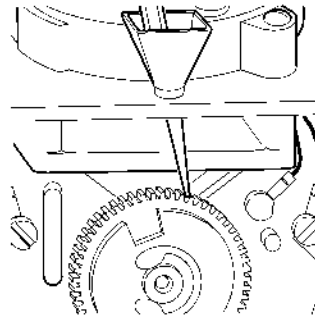

Figure-40 Auxiliary Switch Adjustment (Rear View with Top and Back Covers of Actuator Removed).
3. The access hole for the auxiliary switch adjustment is located in top plate of the actuator directly ahead of the terminal block in the back of the actuator. Refer to Figure-40. Actuators manufactured after 1976 have plastic funnel shield inserted in the access hole.